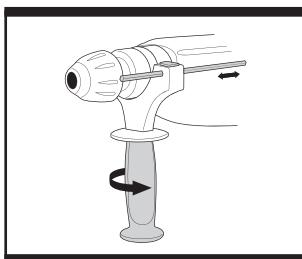

Fig. 2
Loosen the handgrip anti-clockwise then slide the handle on to the head of the hammer. Rotate the handgrip clockwise to clamp the handle and tighten fully (Fig. 2).
2. INSTALLING THE DEPTH GAUGE (Fig. 2)